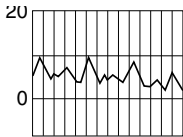

Fig. 4
10. Because of the potential for inadvertent arterial placement, one of the following techniques should be utilized to verify venous access. Insert the fluid primed blunt tip transduction probe into the rear of the plunger and through the valves of the Arrow® Raulerson Syringe. Observe for central venous placement via a wave form obtained by a calibrated pressure transducer. Remove transduction probe (refer to Fig. 4).